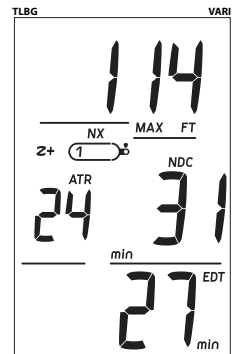

Fig. 58 - DS ALT 1
**DEEP STOP ALT 1**, information includes (Fig. 58):